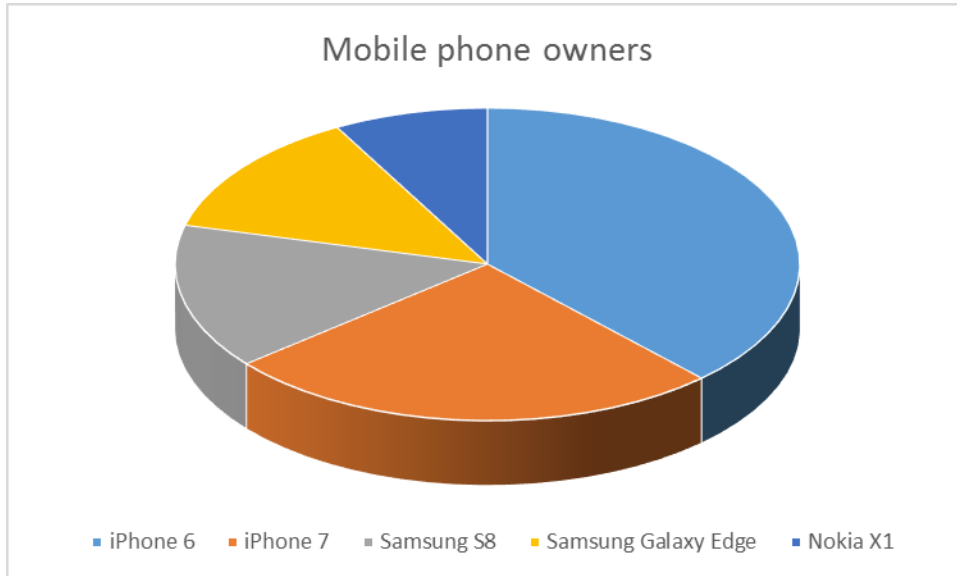

Figure 4
**Table 1** shows the number of owners of mobile phones and **Figure 4** shows the same data in the form of a pie chart.